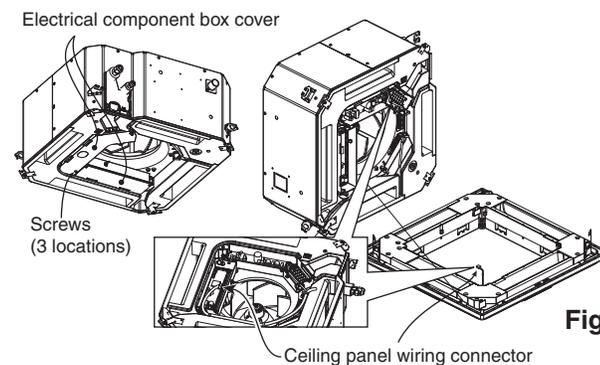

Fig. 3-48
(1) Open the cover of the electrical component box for control PCB.
(2) Connect the 7P wiring connector (red) from the ceiling panel to the connector on the control PCB in the unit electrical component box. (Fig. 3-48)